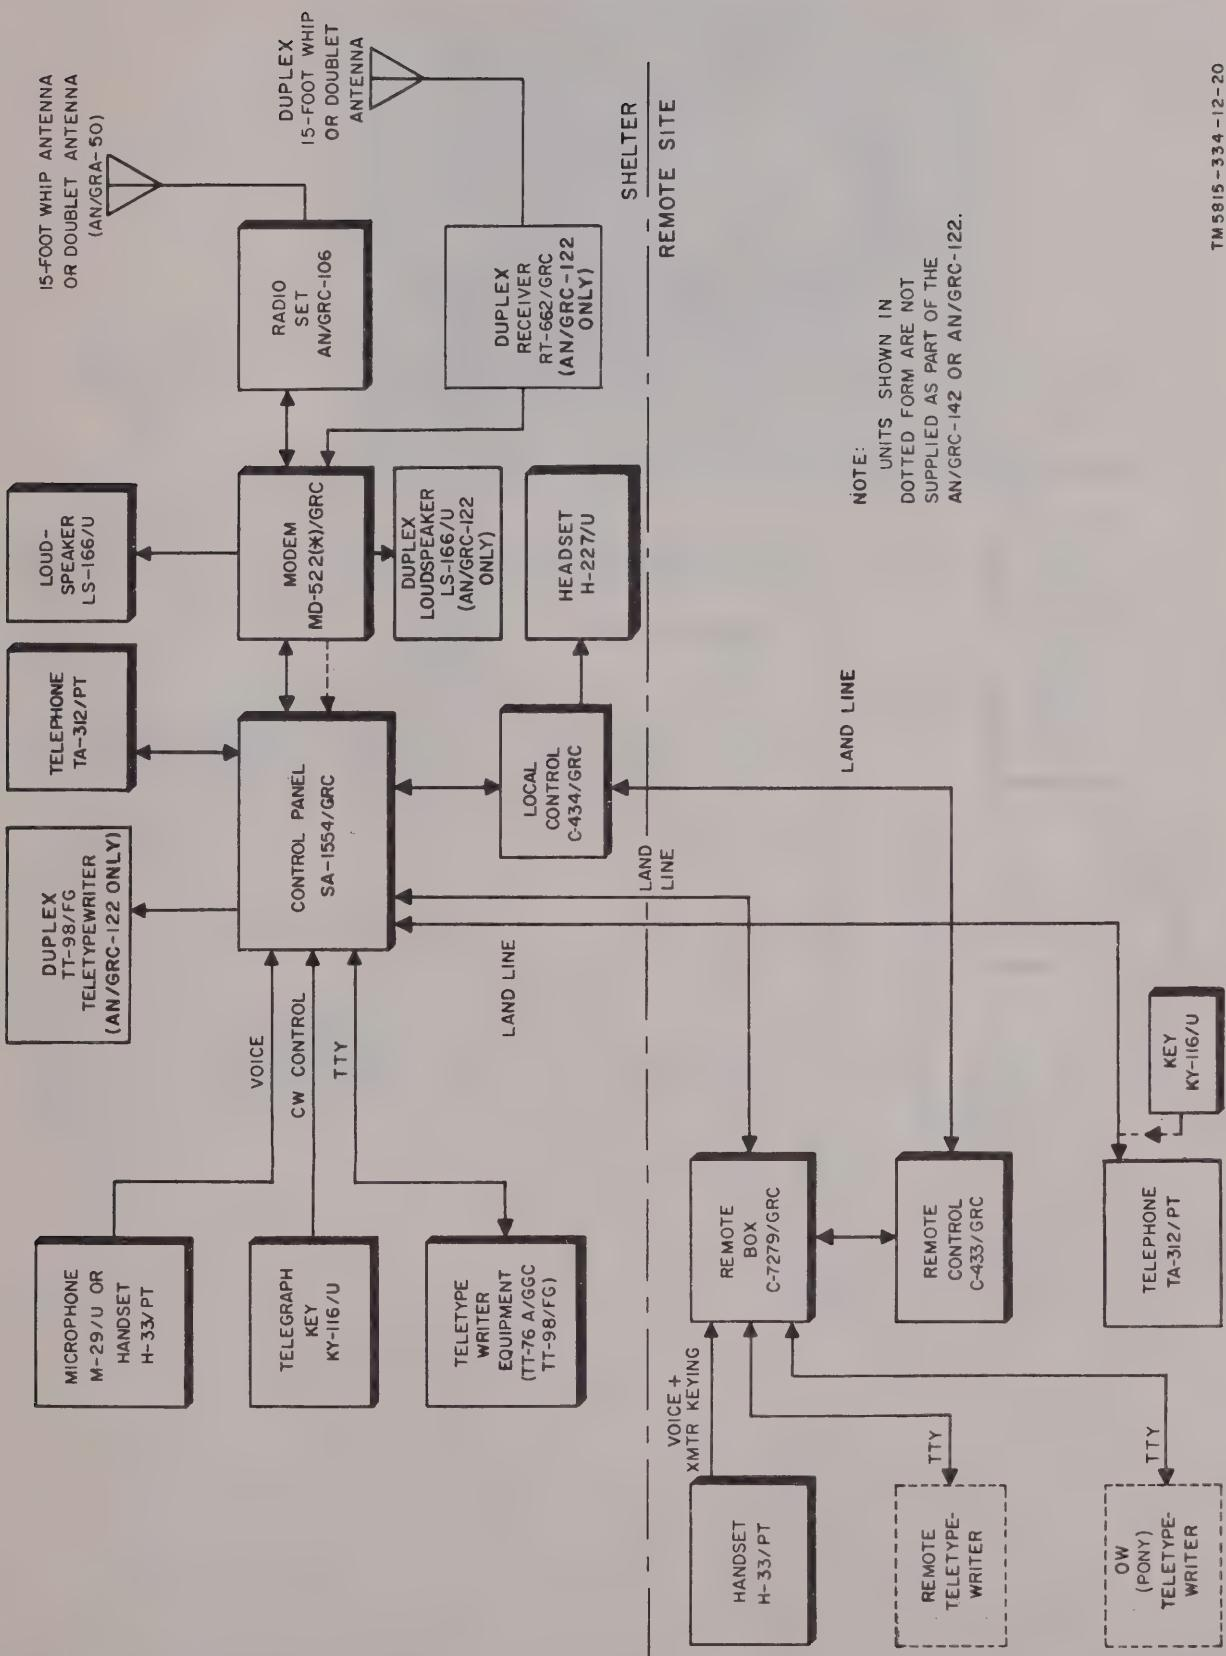

Figure 1-20. Radio Teletypewriter Set AN/GRC-142 or AN/GRC-122, simplified block diagram.
receiving ssb, compatible am., and cw signals. Fsk, nsk, and nsk voice transmission and reception are also possible, using the teletypewriter equipment provided. A simplified system block diagram of the AN/GRC-142 or AN/GRC-122 is shown in figure 1-20 and a simplified system block diagram of the AN/GRC-142A, -142B or AN/GRC-122A, -122B is shown in figure 1-21.
(1) In the AN/GRC-142 or AN/GRC-122 (early models), (fig. 1-20), the remote TA-312/PT may be disconnected and a KY-116/U connected in its place. This arrangement permits cw transmission to originate at the remote site. The cw transmit signal is applied to the AN/GRC-106
i. Duplex Operation. Duplex operation allows the simultaneous transmission and reception of teletypewriter and/or voice information. Duplex operation is possible only with the AN/GRC-122(*). Figure 1-20 shows the duplex units that are added to the AN/GRC-142(*) to obtain an AN/GRC-122(*). These additional units provide the local duplex capability. This duplex capability can be extended to the remote site with the addition of remote teletypewriter equipment. From an operational standpoint, the AN/GRC-122(*) is essentially divided into two links: a transmit link and a receive link. The transmit link consists mainly of the AN/GRC-106; the receive link consists mainly of the duplex RT-622/GRC. Each link operates in-